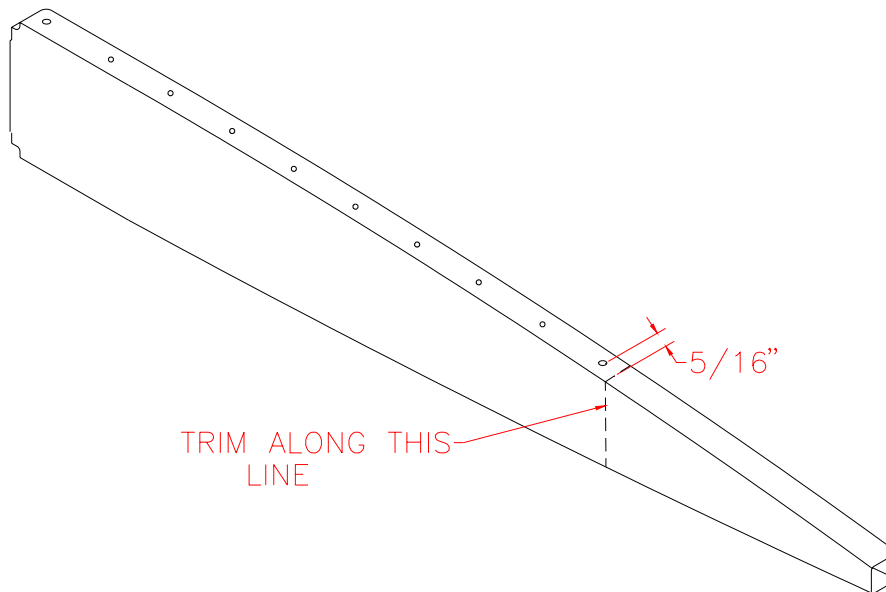

Figure 3.4.1
- 1) Mark the center two ribs $5/16$ " from the last hole. Trim at this mark. See Figure 3.4.1.